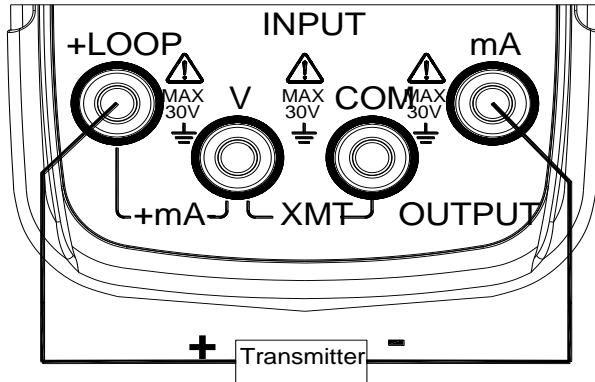

Figure 5.5 24V power supply connection
- Insert the test leads into the V and mA input jacks (INPUT) of the device as shown in Figure 5.5.